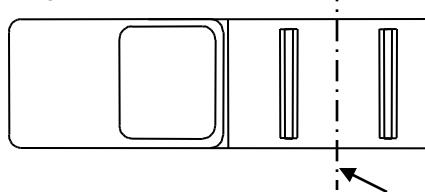

figure 3
3. The trailer king pin should always be directly above or slightly forward of the rear truck axle when towing. Trailers should never be towed with the trailer king pin rearward of the rear truck axle in highway conditions (see Fig. 3).